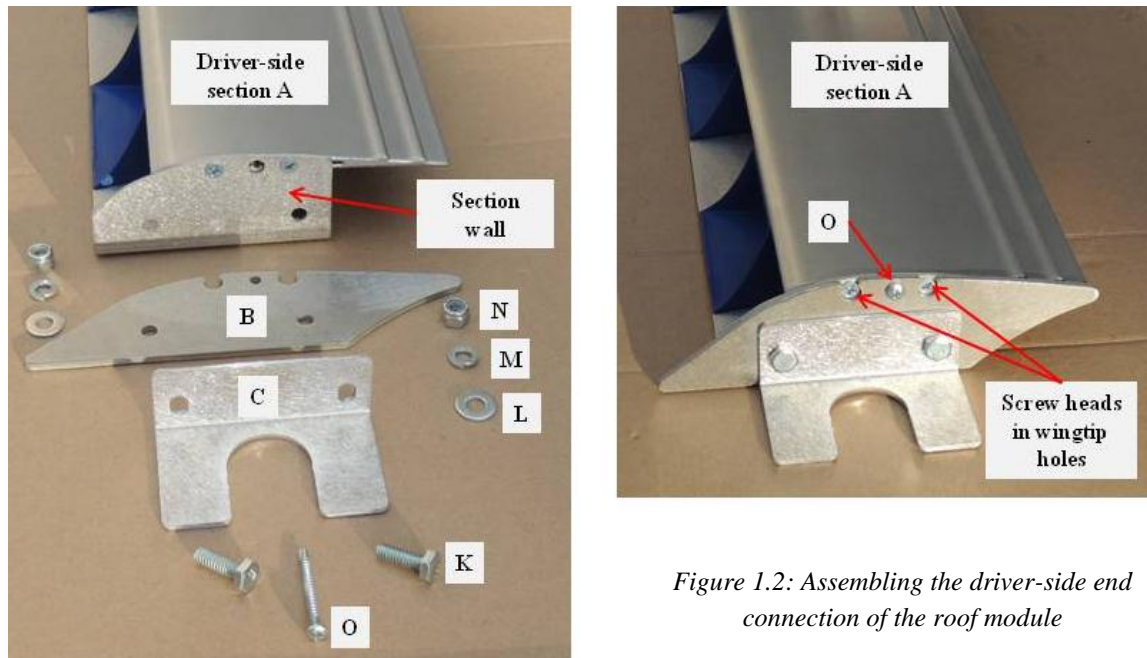

Figure 1.2: Assembling the driver-side end connection of the roof module
1.1.2: Connecting a wingtip and a safety bracket to the driver-side end of the roof module - the major parts are shown in Figure 1.2.
1.1.2.1: Place a wingtip B vertically at the driver side of the driver-side section A, the wingtip front towards the section front, and hand-press it to the section tightly. Make sure that conical screw heads on the top of the section are inserted inside appropriate holes in the wingtip; Figure 1.2.
1.1.2.2: Place a safety bracket C at the driver side of the wingtip, the bracket bottom matches the section bottom; Figure 1.2.
1.1.2.3: Insert two short bolts K through the holes in the section, a wingtip and a safety bracket as illustrated in Figure 1.2, the bolt heads outside the bracket.
1.1.2.4: Put flat washers L, lock washers M and lock nuts N on the bolt ends as illustrated in Figure 1.2. The nuts must be inside the section.
1.1.2.6: Place a screw O into a central hole in the wingtip and tighten it into the section A by Phillips screwdriver; Figure 1.2. Do not over-tighten the steel screw - the wings are made from aluminum.
- Connect wingtips B and safety brackets C to both ends of the module in the same way as described in Steps 1.1.2.1 – 1.1.2.6 and 1.1.3 and illustrated in Figure 1.2. As specified in 1.1.2.5, do not engage the locks M in this step.